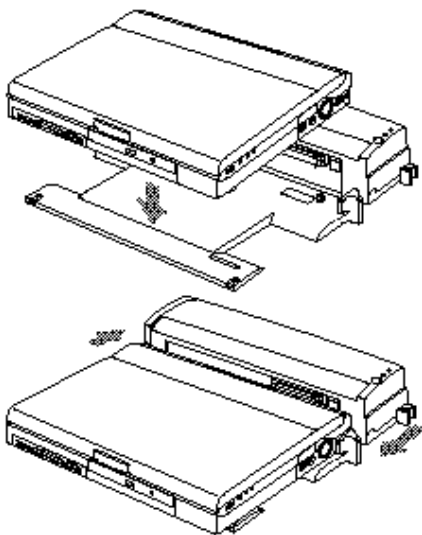

Figure 4-16 Installing Your Notebook in a Docking Device
7. Arrange the notebook/leveler combination to align the docking connector on the docking device body with the Docking port on your notebook and the notches on the leveler with the notches on the docking device body. (*Figure 4-16*.)